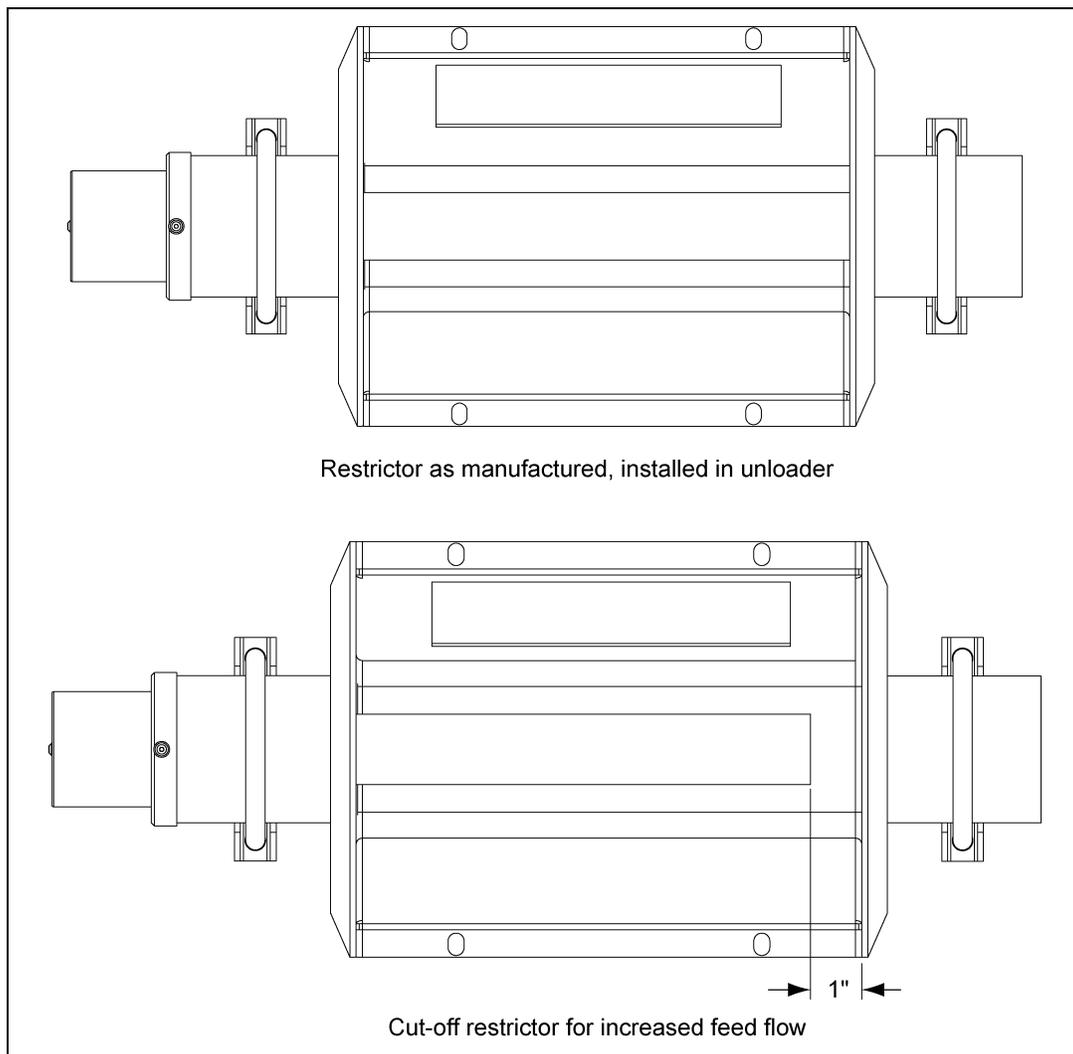

Figure 5G Restrictor Adjustment
2. Cut 1" (2.5 cm) from the restrictor. (*See Figure 5G.*)